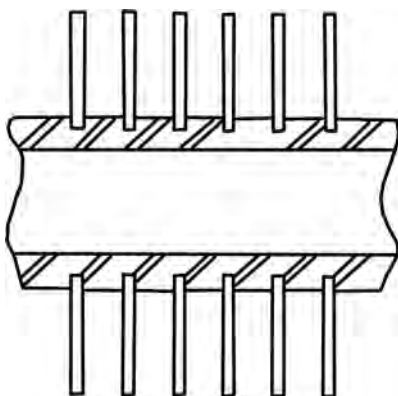

FIGURE 13.2 Embedded fin.
- *Embedded Fins (Figure 13.2):* In high-temperature applications, an embedded process is employed to attach the fin to the tube wall. In this process, a groove is actually cut into the tube, the fin strip inserted, and the tube material then *plowed back* against the fin to bond it to the tube. Separation of the fin and tube due to corrosion or temperature differentials are not a factor with this fin type.